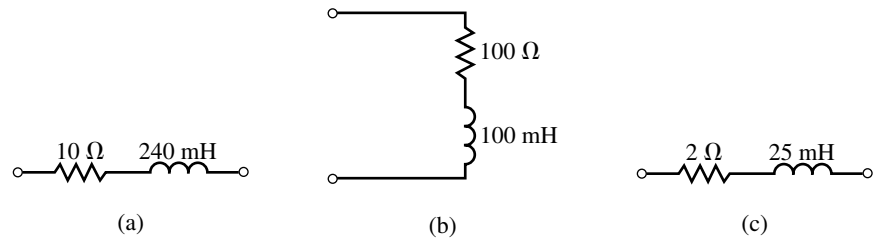

FIGURE 21-58
- 15. Refer to the series networks of Figure 21-58.